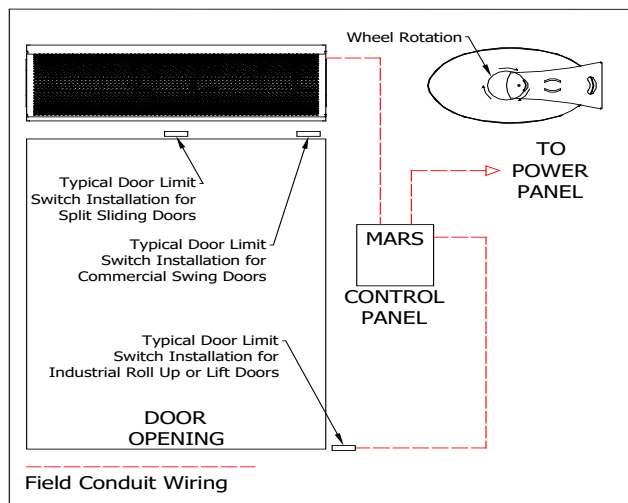

FIG. 3
2. The unit and any optional accessories must be wired with the proper voltage to the junction box per the wiring diagram. (FIG. 3, unheated products only)